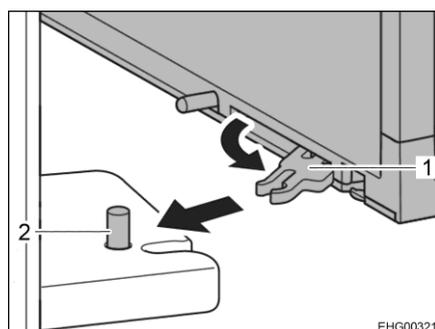

Fig. 118 Refrigerator door locking mechanism
■ On the inner side of the refrigerator door, fold out and pull forward the spacer (Fig. 118,1) at the top and the bottom.
■ Let the spacers snap in at the appropriate pin (Fig. 118,2).